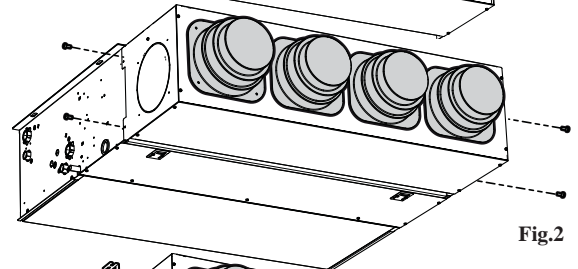

Fig.2
- Use the four screws provided to fasten the PA_V accessory directly to the unit intake vent (fig. 2)